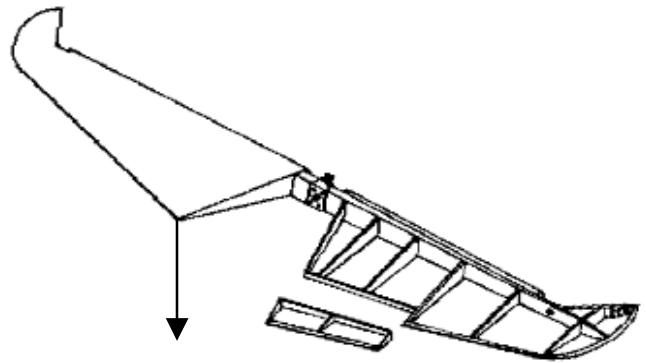

Figure 2 : Horizontal stabilizer balancing
• Horizontal stabilizer balancing (see figure 2)	650 g +/-150 g - 1.43 lbs +/-0.33 lbs